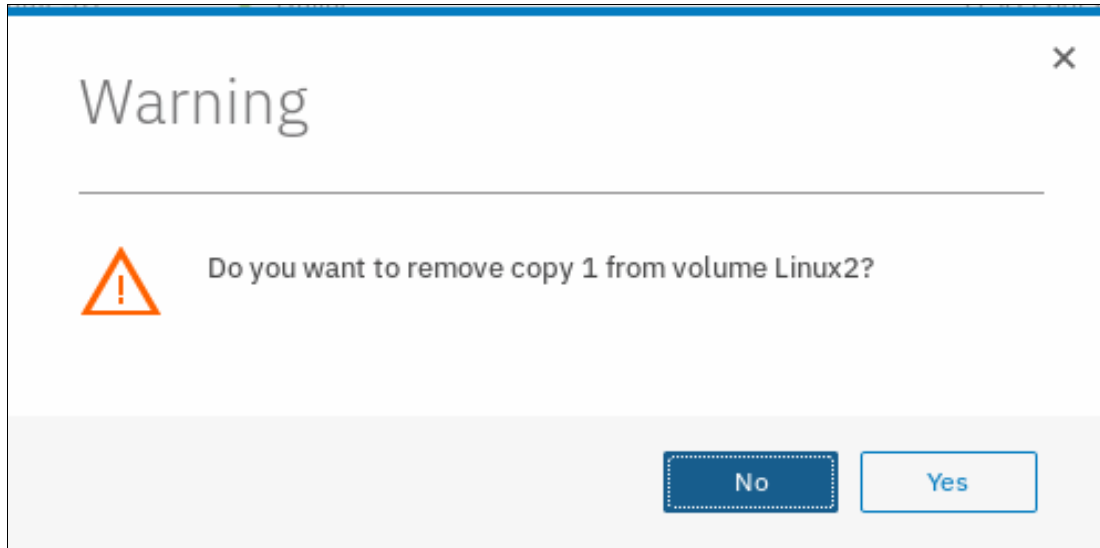

Figure 8-66 Delete a copy confirmation
2. Confirm the deletion process by clicking **Yes**. Figure 8-66 shows the copy deletion warning window.